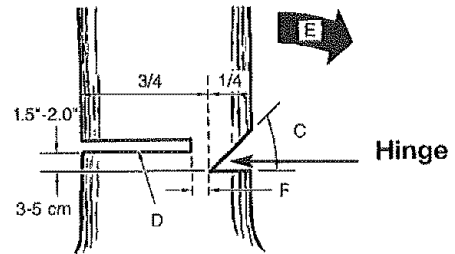

Fig. 13
Normally felling consists of 2 main cutting operations, notching (C) and making the felling cut (D) (Fig. 13).
Start making the upper notch cut (C) on the side of the tree facing the felling direction (E). Be sure you don't make the lower notch cut too deep into the trunk (Fig. 13).
The notch (C) should be deep enough to create a hinge (F) of sufficient width and strength. The notch should be wide enough to direct the fall of the tree for as long as possible (Fig. 13).
Make the felling cut (D) from the other side of the tree and 1.5 - 2.0 inches (3-5 cm) above the edge of the notch (C) (Fig. 13).
2. If the diameter of the tree is greater than the bar length, make 2 equal length cuts—one from each side of the tree directly in front of the notch cut as described in Fig. 13